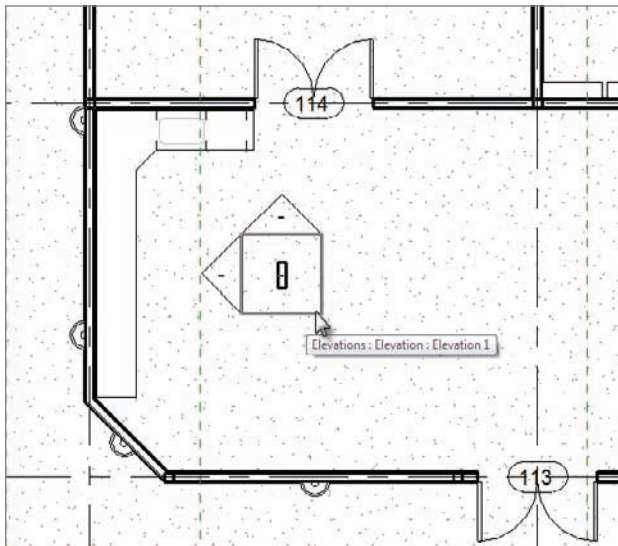

FIGURE 9.58 Adding elevations to aid in design
2. Add an interior elevation looking north, as shown in Figure 9.58.
3. Select the square marker and turn on the elevation looking west (see Figure 9.58).